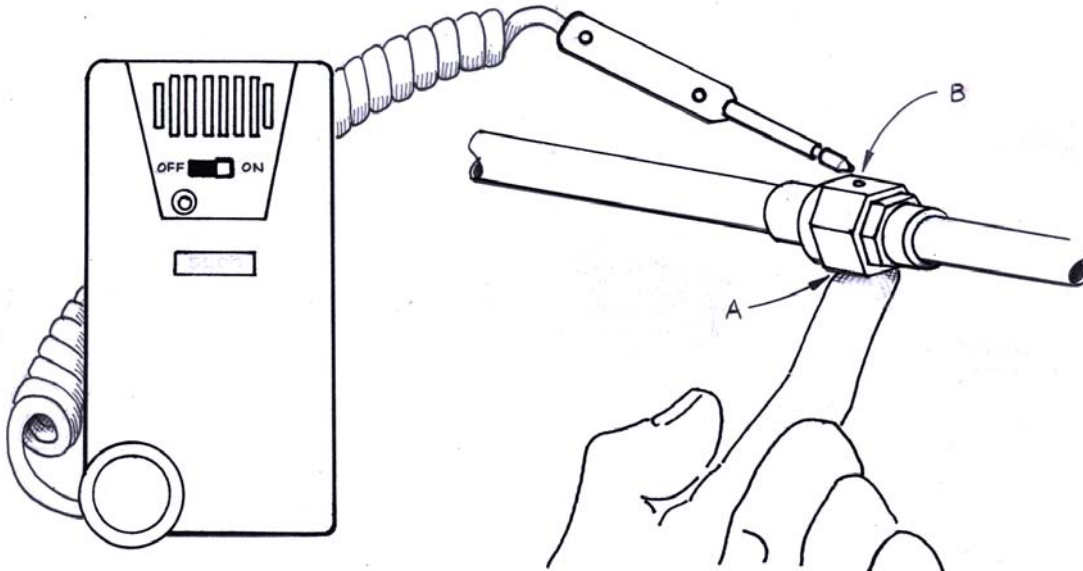

Figure 3-19: Couplings—Leak-checking Method
1. With the halogen leak detector, carefully check each connection that was made. This includes the Parker CPI UltraSeal or Cajon VCR couplings, the EVACUATION VALVE, and any brazed joint that may have been made. The Parker and Cajon couplings have two small access holes on each nut to help find leaks. With a finger cover one hole and put the sensor at the other hole. (See Figure 3-19.)